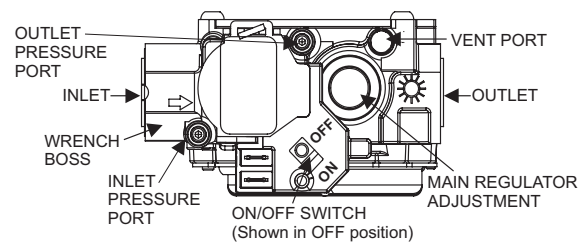

FIGURE 1: Gas Valve
5. Move gas control switch to the "OFF" position. Do not force. See Figure 1.
6. Wait five (5) minutes to clear out any gas. If you then smell gas, STOP! Follow "B" in the safety information above. If you don't smell gas, go to next step.
7. Move gas control switch to the "ON" position. Do not force. See Figure 1.
11. After three (3) trials for ignition, if the appliance will not operate follow the instructions, "TO TURN OFF THE APPLIANCE" and follow trouble shooting instructions as required.
4. Move gas control switch to the "OFF" position. See Figure 1.